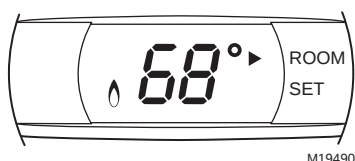

Fig. 18. Room temperature display.
- If a change to the temperature setpoint is not made within five seconds, the display will switch to the current room temperature. An ► indicator points to Room when the room temperature is displayed (see Fig. 18).